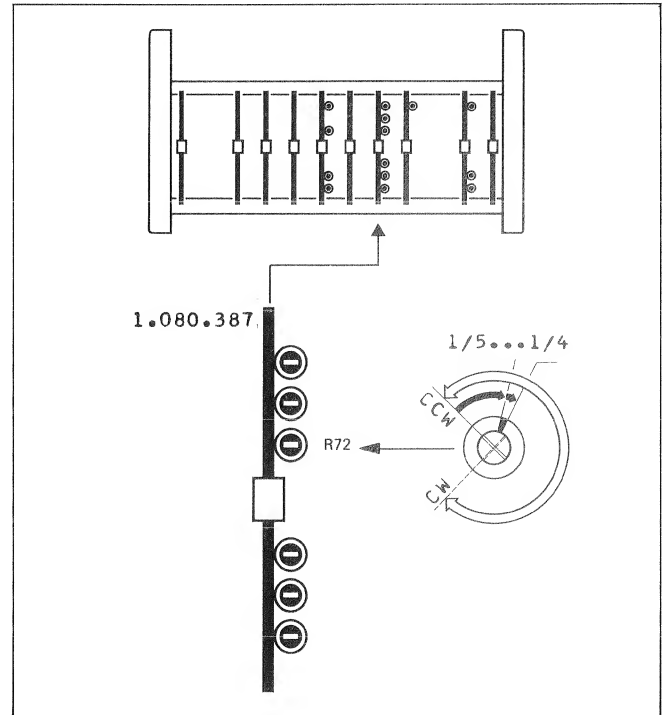

Fig. 4.8
- Open (turn clockwise) R72 (CUT) for EDIT REVERSE to $1/5 \dots \max. 1/4$ of the setting range. -> Fig. 4.8